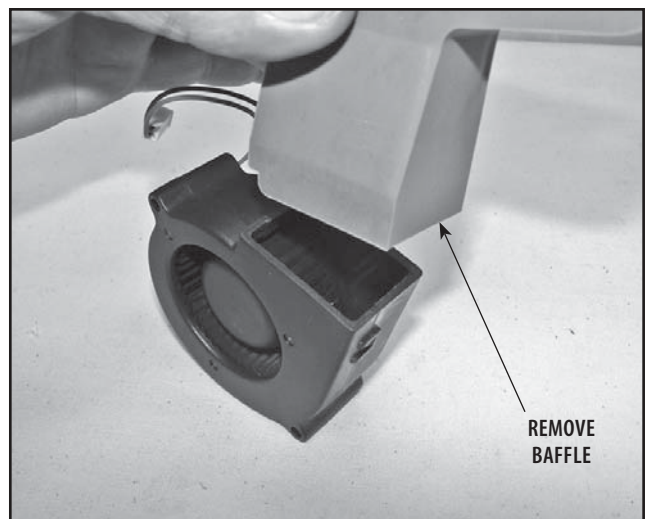

FIGURE 6.24
4. Remove the Fan Baffle from the Fan Housing. See Figure 6.24.